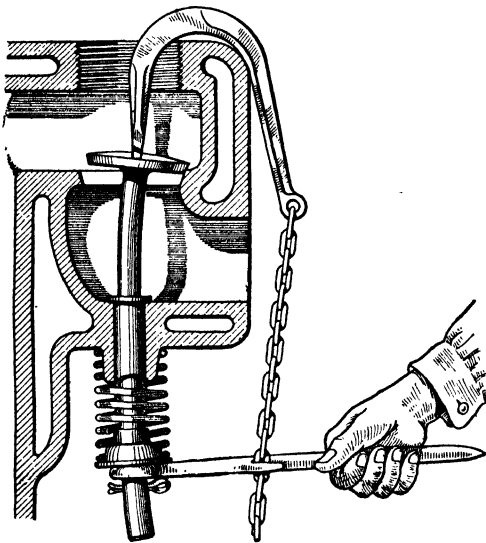

Fig. 66. Diagram Showing Bad Results from Using Valve Lifter with Too Great Pressure
*Removing Valves.* In the removal of valves the use of valve lifters has become very common, and their operation is so simple that little need be said concerning them. However, there is one warning which is worth while, particularly when using a type of lifter with which the operator is not familiar, and that is, that he does not catch the spring retaining-pin in the lower part of the lifter at the same time that pressure is being exerted upon the top of the valve, Fig. 66. The result in such a case would be a bent valve stem, which is very hard to remove.